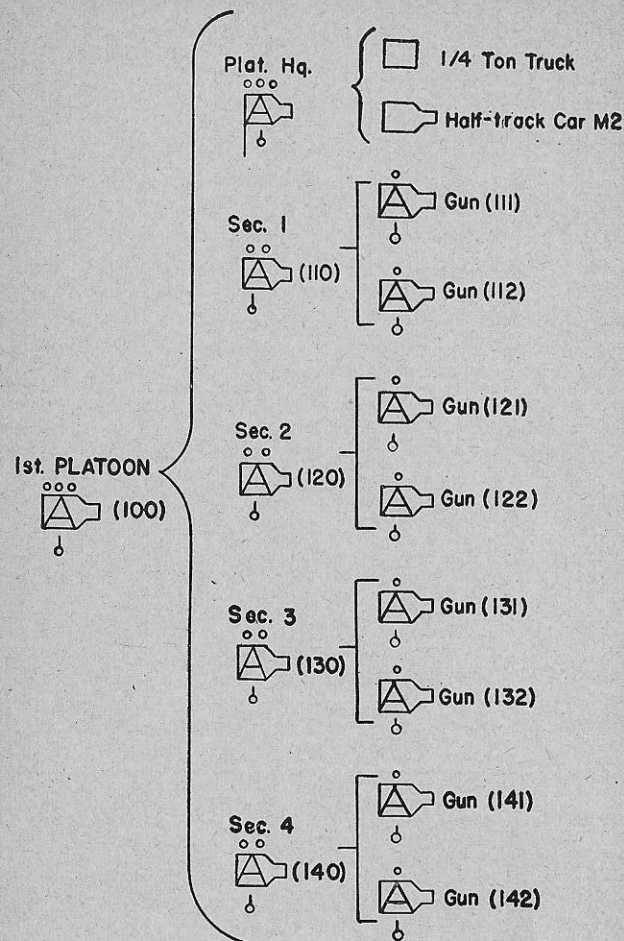

FIGURE 3.—Organization automatic weapons platoon.
■ 9. GENERAL.—The automatic weapons platoon is composed of the platoon headquarters section and four automatic weapons sections (fig. 3). The platoon is commanded by a commissioned officer assisted by executive officer and a platoon sergeant.
■ 11. DESIGNATION.—A numerical designation of each fire unit in the battery is used to speed up transmission of messages. Each fire unit is designated by a three-digit number. Unit figures designate the fire unit in the section. Tens indicate the section of the platoon. Hundreds designate the platoon. Thus the figure 132 refers to the second squad of the third section of the first platoon. Ciphers indicate either the entire section or platoon. For example, 120 indicates the second section of the first platoon, and 100 indicates the entire first platoon. (See fig. 3.)